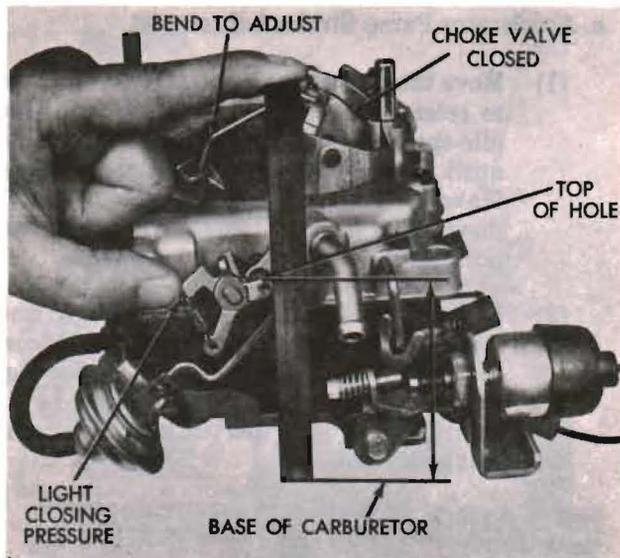

Figure 25. Adjusting Choke Control Lever- Slide 2193
- (4) Measure the vertical distance from top of rod hole in control lever down to the flat surface simulating carburetor bottom (off vehicle) or down to clean choke pad surface (on vehicle).
- (5) This dimension (on or off the vehicle) should be as specified for the particular carburetor being serviced. (See figure 25.)
- (6) Adjust by bending the link connecting the two choke shafts as indicated. (See figure 25.)